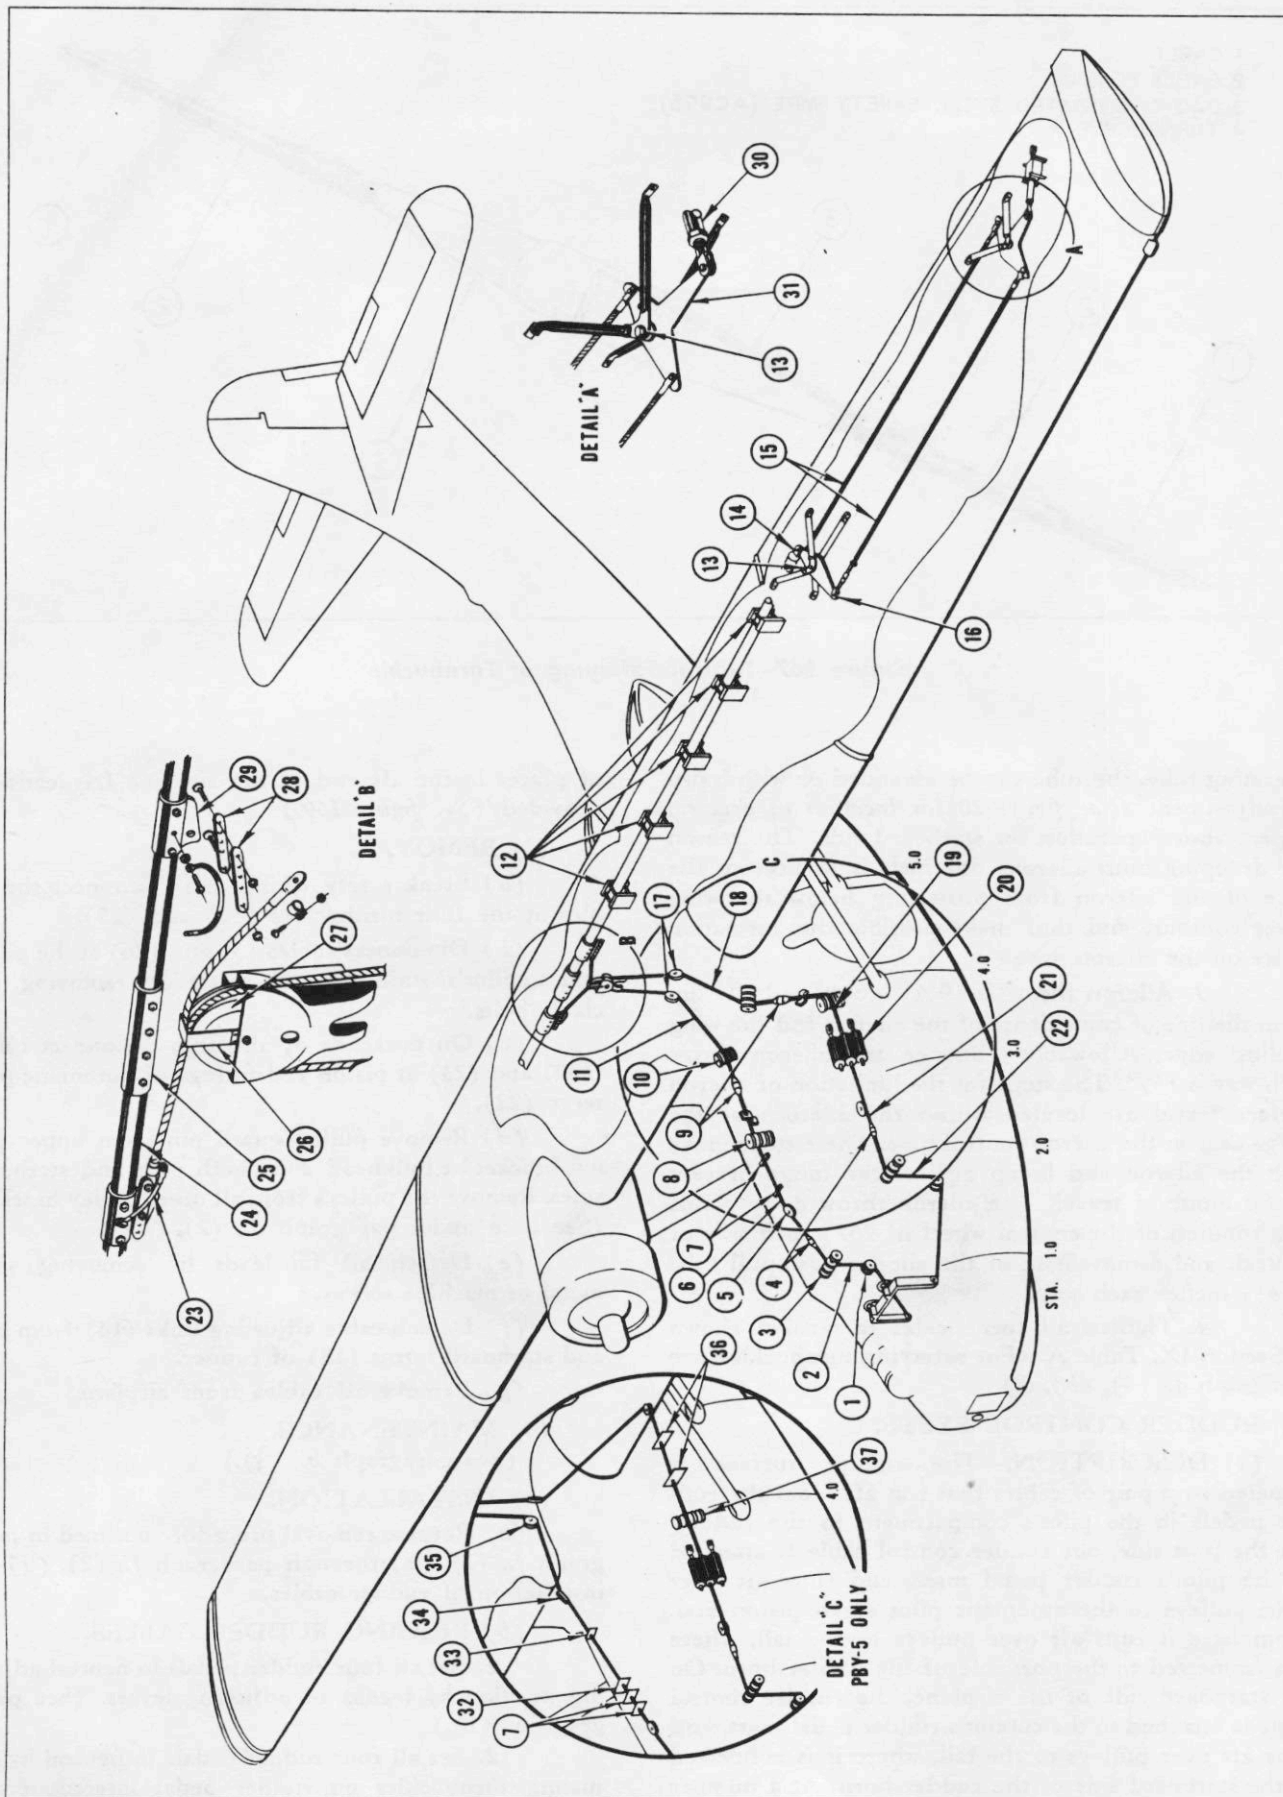

Figure 168—Aileron Control System
(See figure 168.)
**(4) INSTALLATION.**
(a) On port and starboard sides of wing, attach idler levers (16) and bell cranks (31) by means of hubs (13). Attach bonding braids. (See figure 168.)